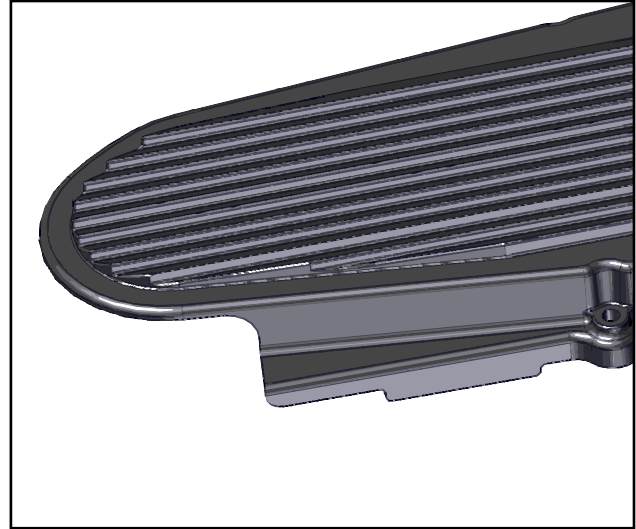

Fig. 3.14 (Trimmed Belt Cover)
3.14 Trim the belt cover along the line on the decal. See figure 3.14.